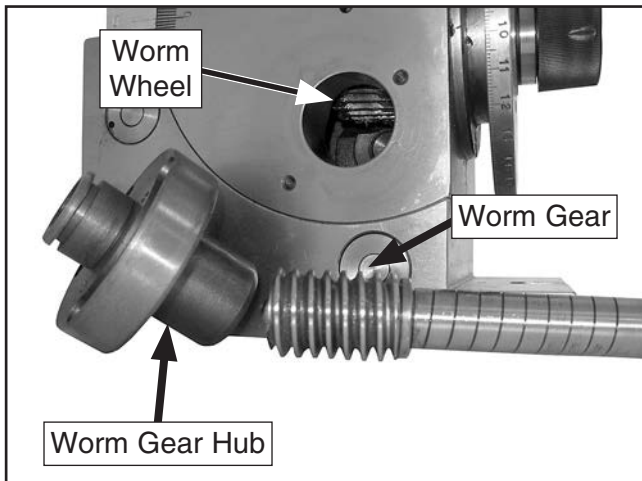

Figure 33. Worm gear removed to expose the worm wheel.
2. Remove the two cap screws that secure the worm gear hub, then remove the hub from the worm gear shaft, as shown in **Figure 33**.